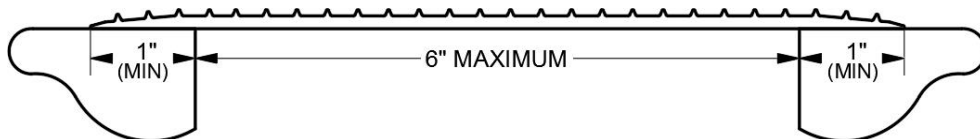

FIG. 7.4
- ⚠ Ensure that at least 1" on each of the supporting edges of the plate is supported on a good, sound construction surface that is free from defects (FIG 7.4).